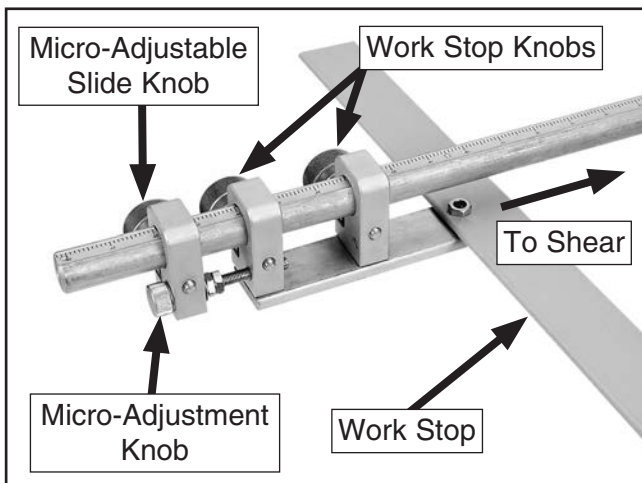

Figure 14. Work stop controls.
2. Tighten the micro-adjustable slide knob (see **Figure 14**) on each assembly.
4. To keep the work stop secured in the desired position, tighten the work stop knobs on each assembly (see **Figure 14**).